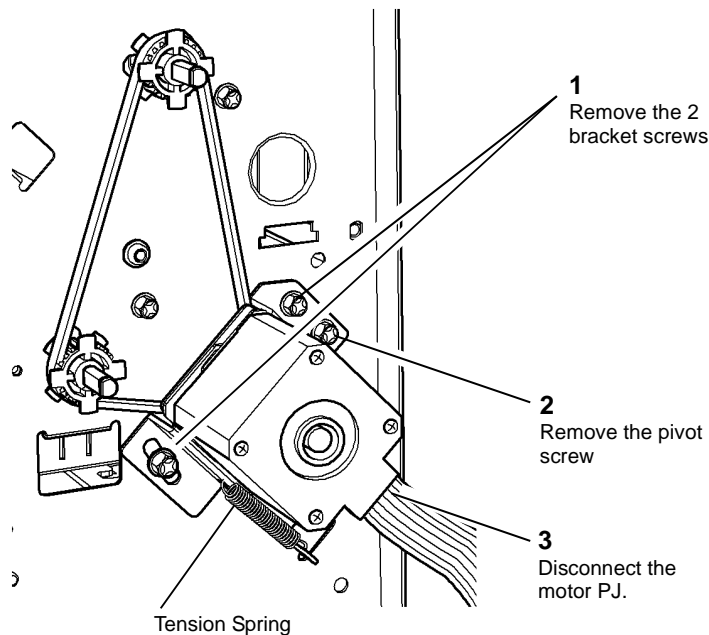

Figure 1 Entry feed motor and bracket
2. Remove entry feed motor 1 and bracket assembly, Figure 1.